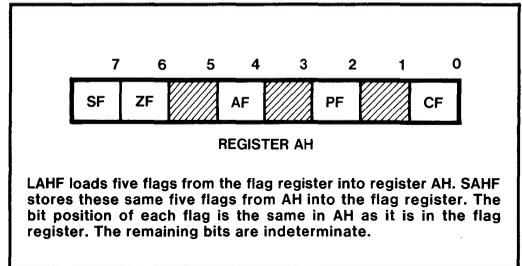

Figure 3-13. LAHF and SAHF
*LAHF (Load AH from Flags)* copies SF, ZF, AF, PF, and CF to AH bits 7, 6, 4, 2, and 0, respectively (see figure 3-13). The contents of the remaining bits (5, 3, and 1) are undefined. The flags remain unaffected. This instruction can assist in converting 8080/8085 assembly language programs to run on the base architecture of the iAPX 86, 88, 186, and 286.
*SAHF (Store AH into Flags)* transfers bits 7, 6, 4, 2, and 0 from AH into SF, ZF, AF, PF, and CF, respectively (see figure 3-13). This instruction also provides 8080/8085 compatibility with the iAPX 86, 88, 186, and 286.